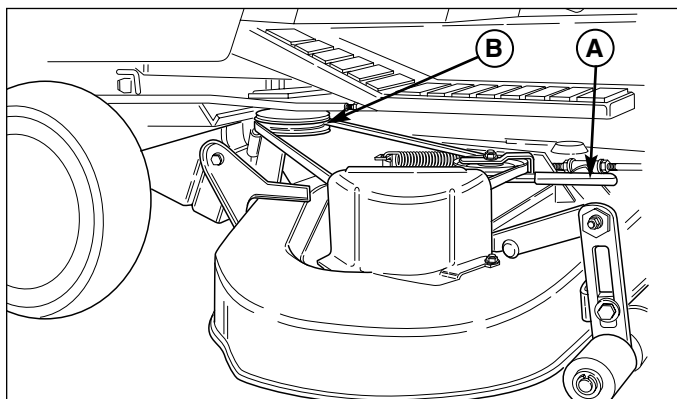

Figure 13. Removing & Installing Belt
3. Move idler arm (A, Figure 13) to relieve belt tension. Remove belt from PTO pulley (B).
5. Move idler arm (A, Figure 13) to relieve belt tension. Install belt onto the PTO pulley (B).